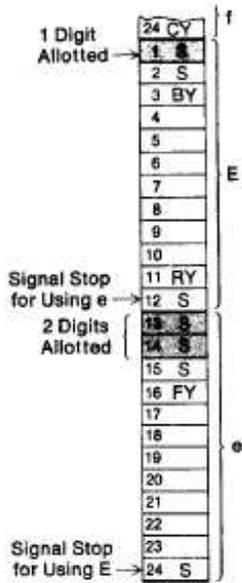
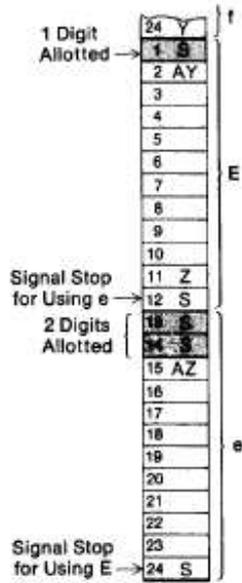

Fig. 3
Fig. 4
3. The instruction immediately following the space allotted for the number must be either a stop (an S) (see Fig. 3) or an A reference point (AV, AW, AY, AZ, aV, aW, aY, or aZ) (see Fig. 4).
Unless it is a 'signal stop,' there is no restriction on the instruction immediately preceding the space allotted for the number. Normally it would be an origin point to enable the program to skip around the number and continue with subsequent instructions. Similarly, the instruction immediately following the space allotted for the number would be an A reference point or a stop followed by any reference point. (see Figs. 3 and 4).